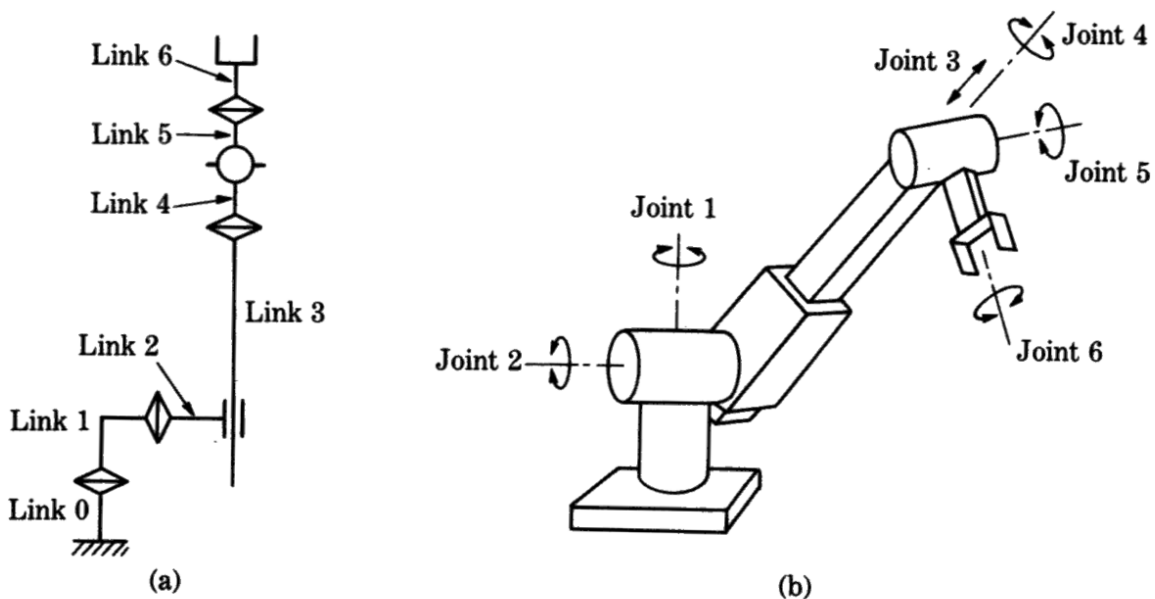

Figure 2: Stanford manipulator.
Task 2.2 (4 points) DH-Parameter Stanford manipulator: The Stanford manipulator has five revolute joints and one prismatic joint. Figure 2(a) illustrates the general idea and figure 2(b) shows the general configuration of a Stanford manipulator. Assume the distance between joint 1 and joint 2 to be d_2 . Specify the coordinate frame of each joint and present the corresponding Denavit-Hartenberg (DH) parameters as a table.